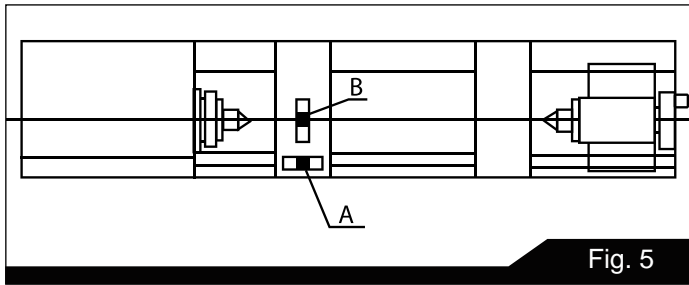

Fig. 5
1. Use a machinist's precision level on the bed ways both front to back and side to side, as shown in Figure 5. Take the reading in one direction every ten inches. Make sure the ways are clean and free of any debris before placing a level upon them.
2. Deviation over bed length (see Figure 5):